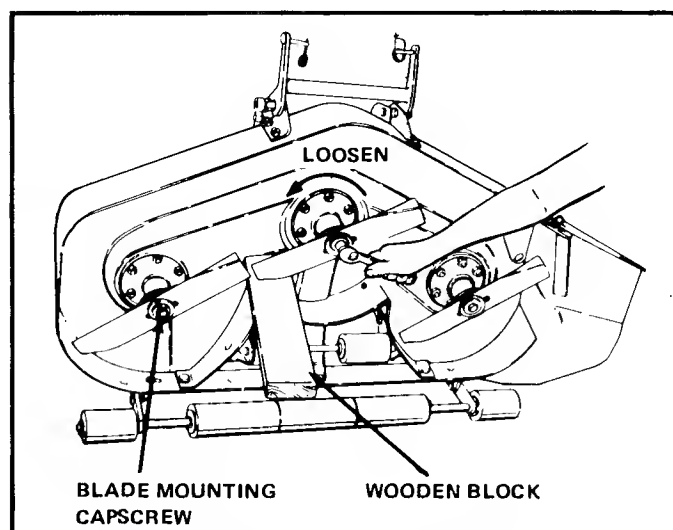

Figure 6. Loosen Blade (Typical Mower Shown)
3. To remove blade for sharpening, use wooden block to hold blade while removing its blade mounting capscREW (figure 6).